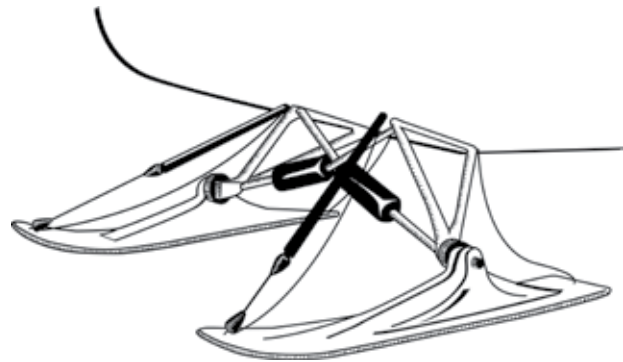

Figure 2 Wheel Replacement Ski.
- **Wheel replacement** – Wheels are removed and ski boards are substituted. (Fig. 2)